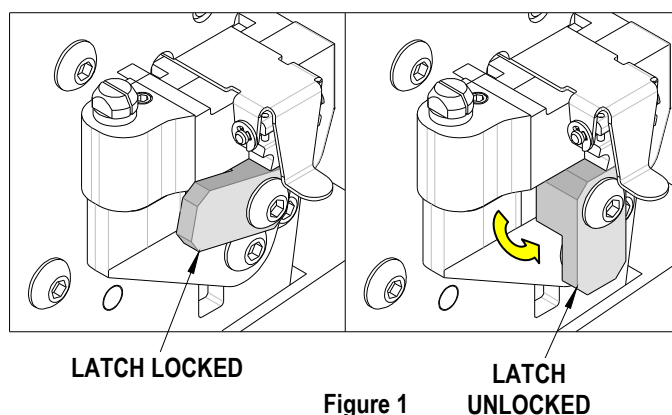

Figure 1
2. Turn the Locator Lock Latch down to unlock. See Figure 1.
4. Press down on the wire stop on the locator as shown in Figure 1. Insert the proper terminal into the proper nest opening. Make sure when choosing the nest opening, it will correspond with the A, B or C profile on the hand tool.